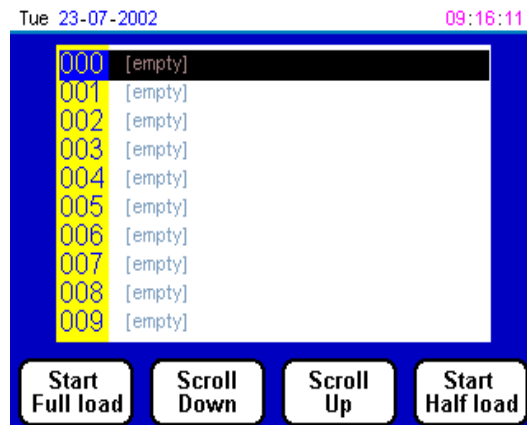

FIG 2
2. Press (4) and program list appears (see fig 2). (If oven has not been programmed go to section 12 - programming).
7. This will now take you back to program screen (Fig 2).
Click on first box under the heading program list, (as can be seen in fig 2) enter your program name and select phase time, bake temperature, power level, steam time, fan cycles, fan dwell and damper delay. This can be repeated up to 99 times just by clicking on next box below. It is now important to save the file to disk. (See section 4 saving)